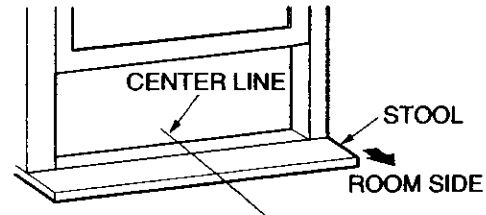

Figure 75
- Open the window and mark center line on the center of the INNER SILL as shown in Figure 75.